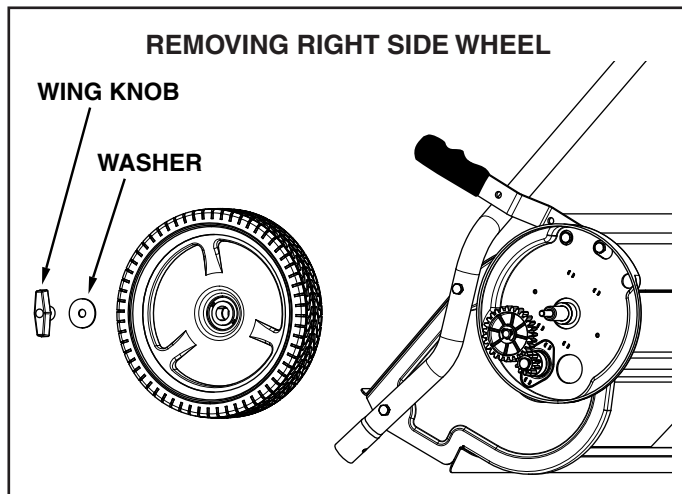

FIGURE 22
- Every year, remove the wheels and clean the gear teeth and the teeth on the back side of the wheel. After cleaning, lubricate the axle, and the teeth on the gears and the wheel with a light coat of grease. To remove the right wheel, unscrew the wing knob and remove the wheel and washers. To remove the left wheel, pop off the hub cap using a screwdriver and remove wheel along with the bolt, washers, step spacer and nut. See figures 22 and 23.